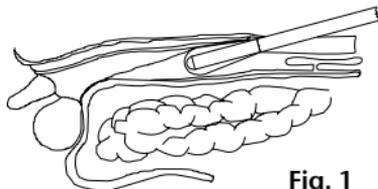

Fig. 1
1. Remove the disposable balloon system from its sterile packaging and screw it into the housing of the trocar sleeve instead of the guide tube. Slide the blunt obturator carefully into the trocar sleeve until the stop. Keep it in this position. If necessary, put sterile lubricant onto the distal end and introduce it between the tissue layers to be separated using an open method. While introducing the balloon system and during the surgical intervention, make sure that the balloon is not damaged by other instruments (see fig. 1). Alternatively, you may replace the blunt obturator of the (bilateral) PAJUNK® dilating balloon system by an endoscope at the beginning of the procedure in order to introduce it under sight. Make sure not to apply too much pressure when introducing the endoscope to avoid damage to the balloon.
If necessary, put sterile lubricant onto the distal end and introduce it between the tissue layers to be separated using an open method. While introducing the balloon system and during the surgical intervention, make sure that the balloon is not damaged by other instruments (see fig. 1). Alternatively, you may replace the blunt obturator of the (bilateral) PAJUNK® dilating balloon system by an endoscope at the beginning of the procedure in order to introduce it under sight. Make sure not to apply too much pressure when introducing the endoscope to avoid damage to the balloon.